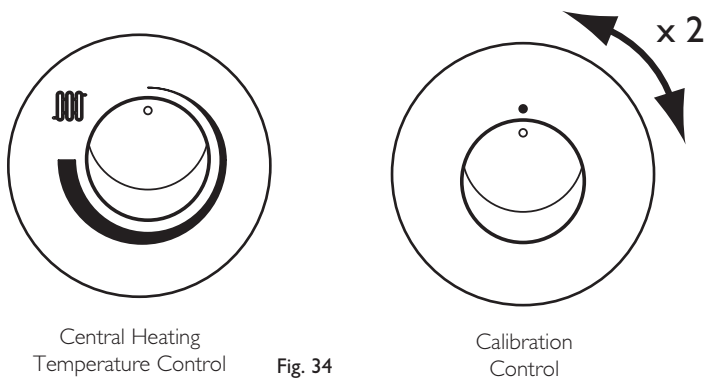

Fig. 34
3. Turn both temperature control knobs fully anticlockwise, then quickly turn the Calibration Control knob $\frac{1}{4}$ clockwise twice and back fully anticlockwise (Fig. 34).